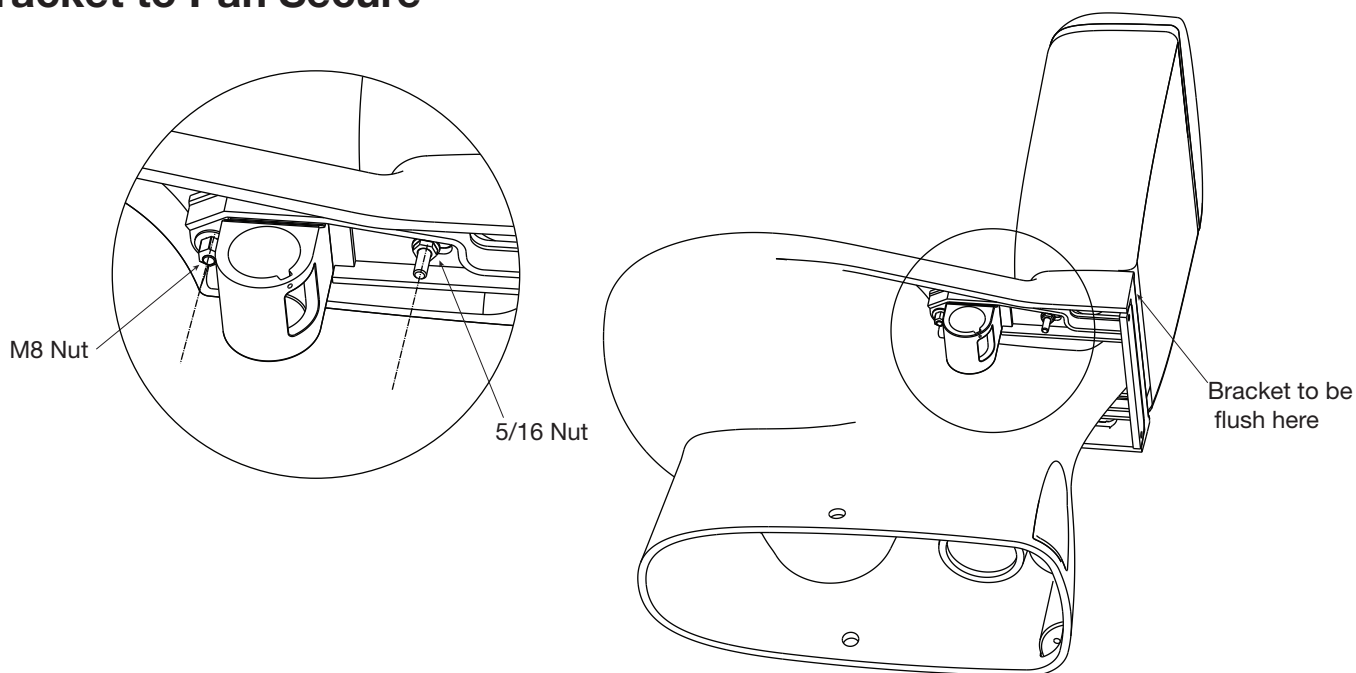

Fig. 8
9. Ensure that rear of hingeblock is flush with back of pan as shown in **fig.8**. Tighten two front M8 and two rear 5/16 nuts to secure the bracket to the pan.